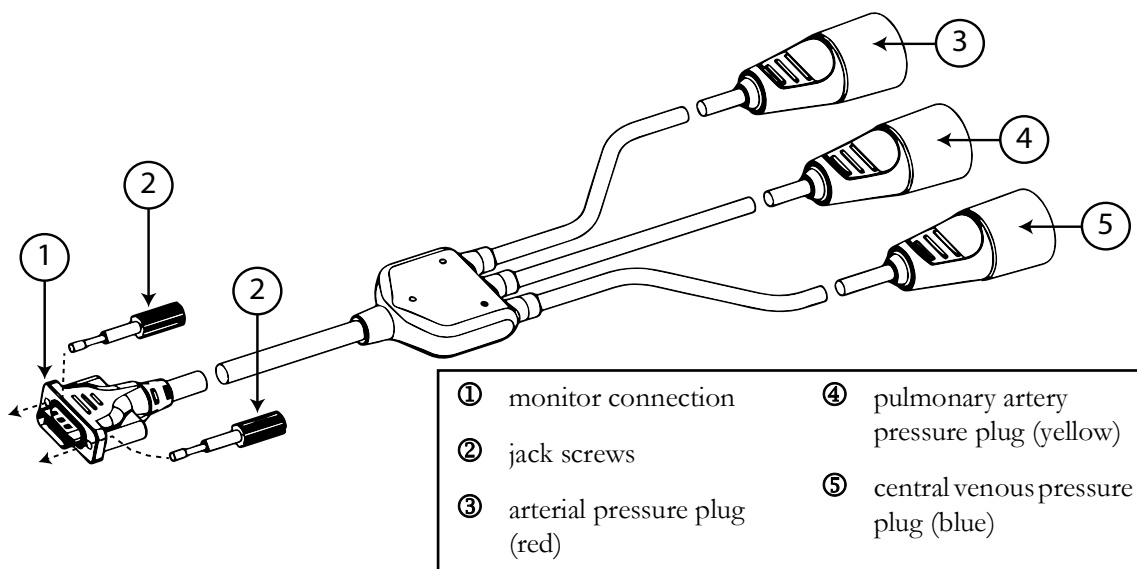

Figure 10-3 HemoSphere pressure-out cable
- 1 Plug the 18-pin connector of the HemoSphere pressure-out cable (see ① in figure 10-3) into the rear panel of the monitor at the pressure out port denoted by the analog out symbol . See ⑨ in figure 3-2 on page 73.
- 2 Use the two jack screws to properly secure the pressure-out cable plug in place. See ② in figure 10-3.
- arterial pressure (AP, red, ③)
- pulmonary artery pressure (PAP, yellow, ④)
- central venous pressure (CVP, blue, ⑤)